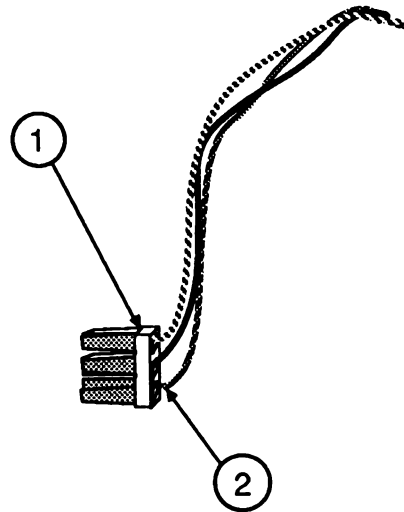

**FIGURE 5**
13. Locate the three-wire AC IN connector (Figure 5, #1) that you removed from the line filter board.
14. Using small wire cutters, clip off the green AC IN ground wire close to the connector (Figure 5, #2).